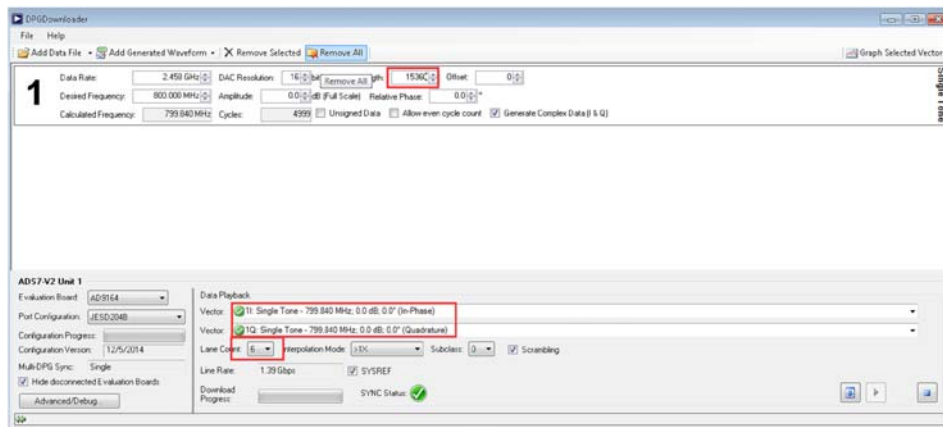

Figure 19. Record Length When Lane Count = 3 or 6
- If SYNCOUT± stays high, as indicated by a green check mark next to **SYNC Status** (see Figure 19), the link is functional. However, if the signal spectrum appears to be incorrect, it is possible that the physical lanes were not mapped correctly.
Note that when selecting a **Lane Count** value of either 3 or 6, **Record Length** must be set to a value that is a multiple of 3. Otherwise, the spectrum does not output correctly. An example is shown in Figure 19.